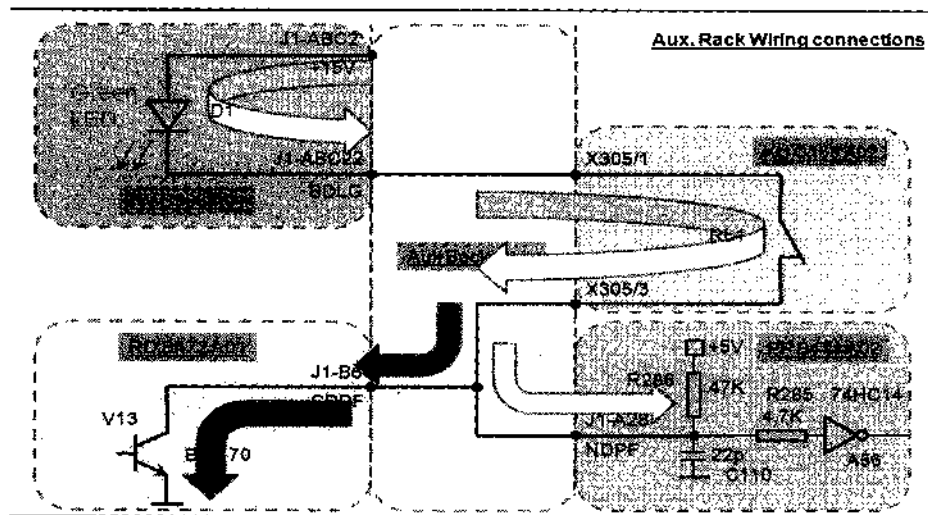

Figure-2
- 2.3 On analysis of these failures it has been noticed that reversal of connector X305 in the back plane of KUC153 A01 card is leading to the wrong connections and consequently failures are taking place. This connector is no mechanically coded and has only two wire connections. When connector X305 is wrongly connected (connected upside down), the circuit formed is shown in figure 1. In this case +15 Volt supply connects via green LED on KVB993 card to relay RL1 on KUC153 card. The other end of this connects to the collector of transistor V13 on RDB 472. Sometimes transistor V13 gets turned on before relay RL1 is completely opened therefore leading to a short circuit of +15 V supply to ground for a short duration. As a result of this the voltage output of KUC153 may fall and this could lead to an interruption of the life sign from auxiliary converter rack to the VCU. This may also interpreted as a problem of "life sign missing" with KUC 153 card or PPB471 card. In some cases transistor V13 on RDB 472 also fails. The flow of current is shown in figure-2.